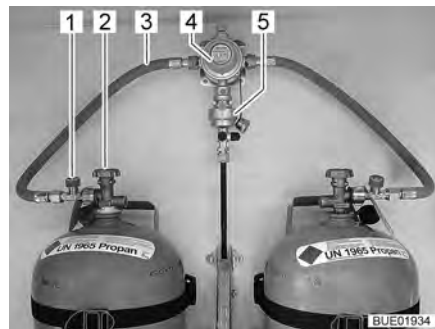
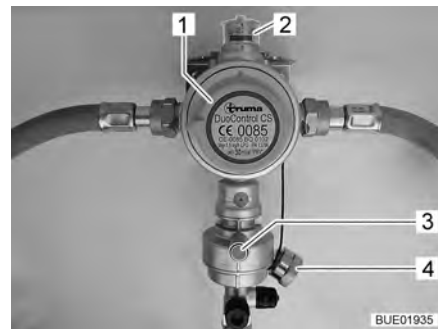

Fig. 60 Gas bottles with DuoControl
Fig. 61 DuoControl regulating system
The DuoControl regulating system consists of a reversing valve (Fig. 60,4) and a crash sensor (Fig. 60,5). The DuoControl regulating system is installed between the gas tubes (Fig. 60,3) with hose break guard (Fig. 60,1). The knob (Fig. 61,1) on the reversing valve is used to select which of the gas bottles is to be used as primary bottle and which is to be used as reserve bottle.
The status of the gas supply is indicated in the inspection window (Fig. 61,2):
The operation with only one gas bottle is allowed but in this case the open connection must be closed with a blind cover (Fig. 61,4).
The crash sensor blocks the gas supply in the event of a significant impact (e.g. accident). The crash sensor is put into operation with the green reset button (Fig. 61,3).
The hose break guard (Fig. 60,1) blocks the gas flow if the connected hose breaks. The hose break guard must be activated by pressing the green button.
Operating unit At the operating unit (Fig. 62), the gas supply via the DuoControl regulating system is switched on and off. The regulator taps (Fig. 60,2) of the gas bottles and the gas isolator taps of the devices must be opened manually.
- Use the knob (Fig. 61,1) on the reversing valve to select the gas bottle which is to be the primary source of gas (primary bottle). Always turn the knob as far as it will go.
- Open regulator taps (Fig. 60,2) on the gas bottles.
- Press the green button of the hose break guard (Fig. 60,1). The green marking is shown in the inspection window (Fig. 61,2).
- Close regulator taps (Fig. 60,2) on the gas bottles.
If the green indicator lamp (Fig. 62,6) goes out during operation and the red indicator lamp (Fig. 62,5) lights up, the primary bottle is empty and must be changed. The red marking is shown in the inspection window (Fig. 61,2). The reserve bottle continues supplying the gas appliances with gas.
- Turn the knob (Fig. 61,1) a half turn in the direction of the currently used gas bottle. In this way, this gas bottle is the primary bottle now, and the empty gas bottle becomes the reserve bottle. The marking in the inspection window (Fig. 61,2) changes from red to green.
- Close regulator tap (Fig. 60,2) on the empty gas bottle. Pay attention to the direction of the arrow.
- Press the green button of the hose break guard (Fig. 60,1).